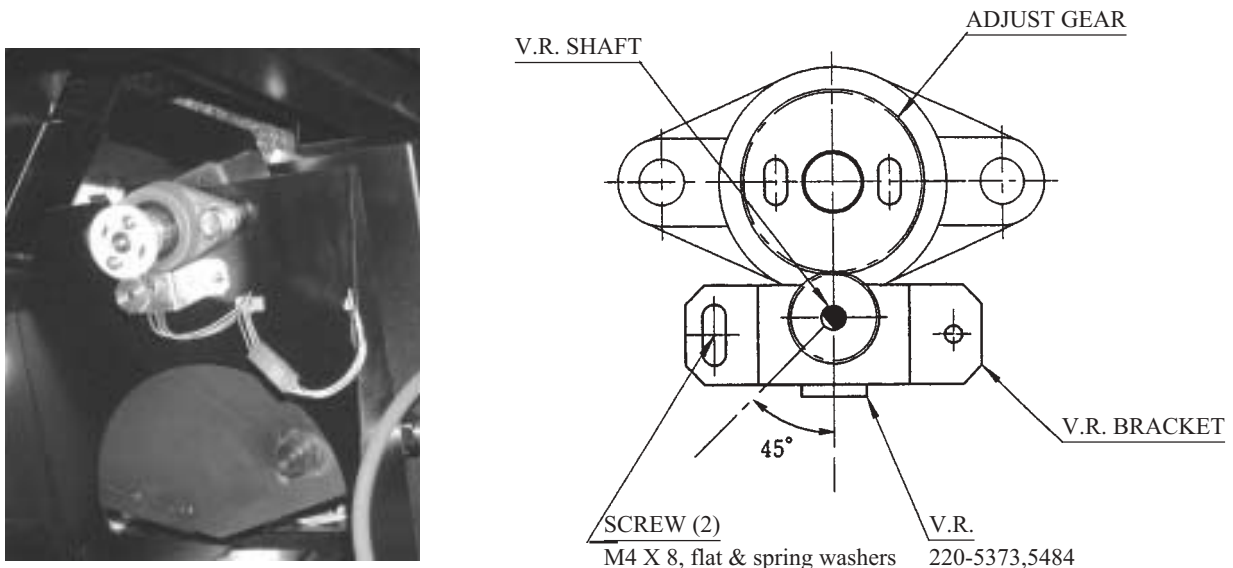

FIG. 11. 3
- ① Turn the main switch of the AC Unit off.
- ② Remove the Rear Lid of the Mechanism Base, and close the Main Cock.
- ③ Remove the Lid Left of the Mechanism Base. The Pitch Volume can be seen on the side of the lower front part of the Ride (FIG. 11. 3).